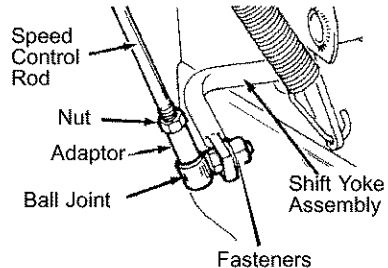

Figure 36
1. Loosen the **nut** on the **speed control rod**. See Figure 36.
6. Remove the **speed control rod** from the **shift yoke assembly**. See Figure 36.
- Attach the **speed control rod** to the **shift yoke assembly**. See Figure 36.